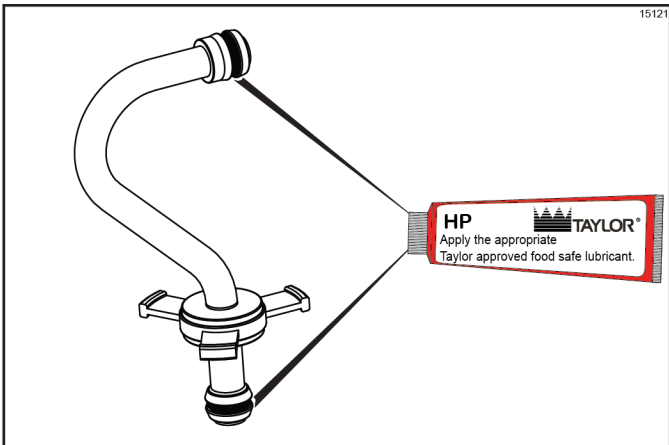

Figure 6-31
11. Install one red O-ring on each end of the mix feed tube, and thoroughly lubricate. (See Figure 6-31.)